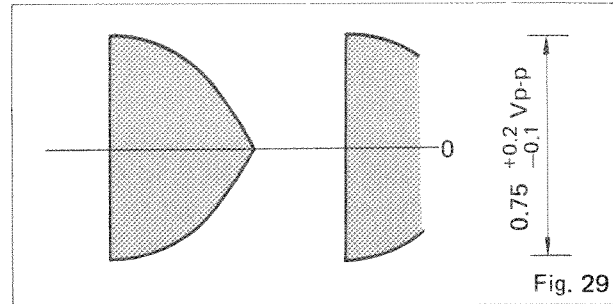

Fig. 29
2. Waveforms as provided in Figures 29 and 30 should be obtained when speed switch is set to the center position and $\sim / \curvearrowright / \square$ controls set to each specified position in item E-1.